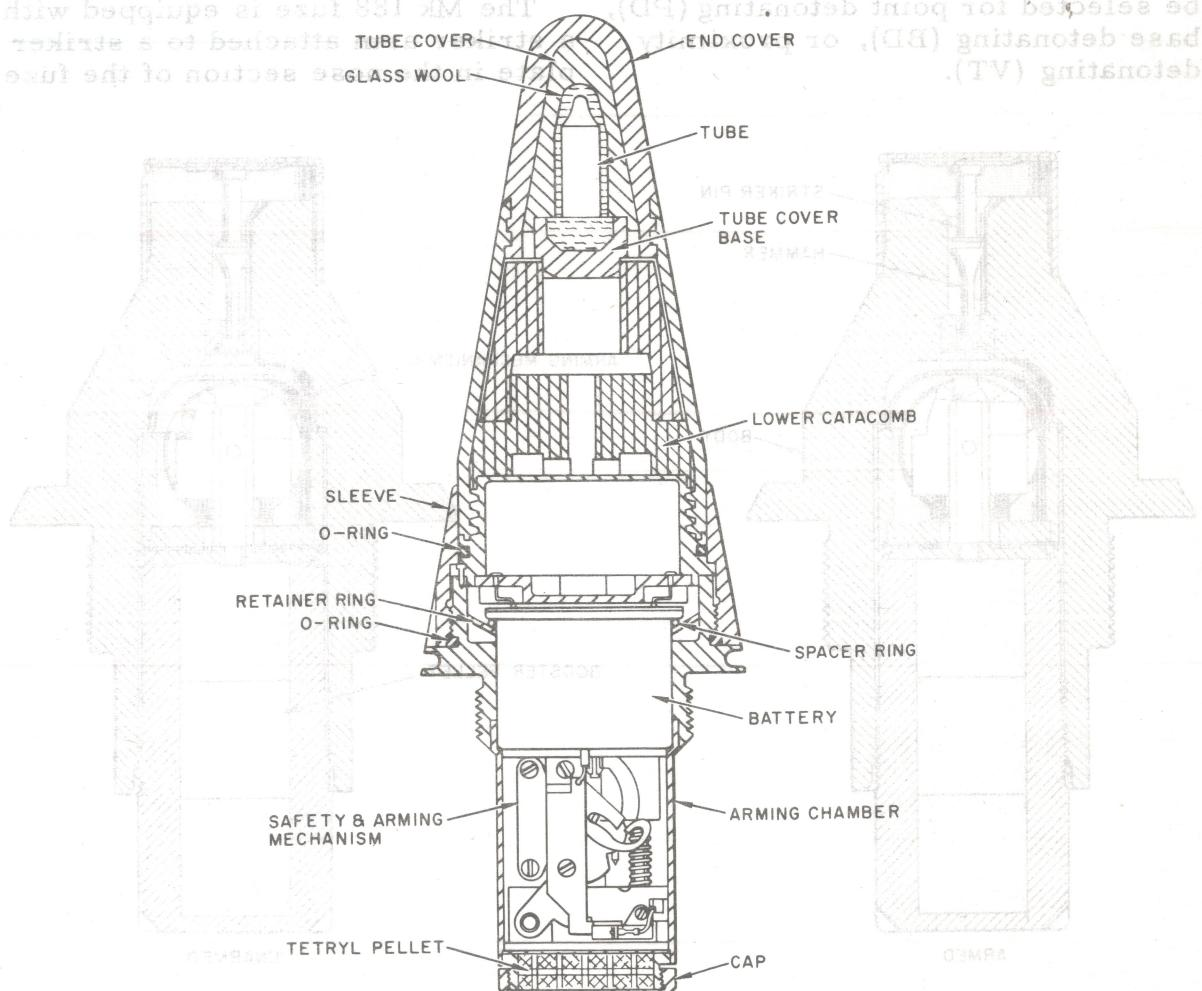

Figure 11 – Fuze M 414 (Proximity).
**FUZE M 414 (PROXIMITY).** The M 414 fuze, figure 11, is designed